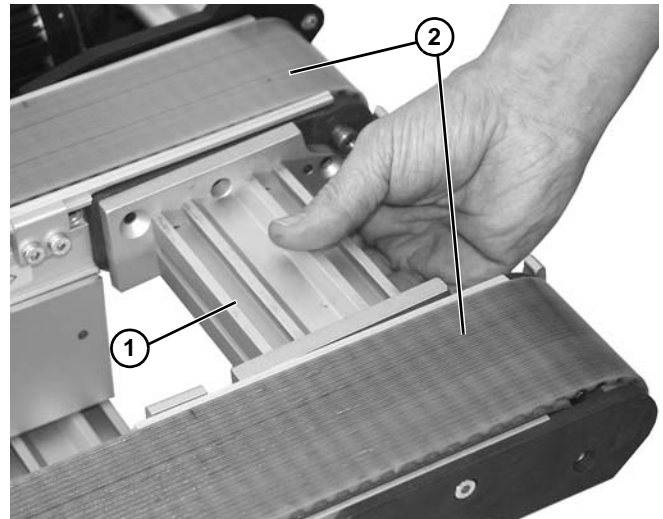

Figure 25
1. Install tie tube (Figure 25, item 1) between conveyor belts (Figure 25, item 2).